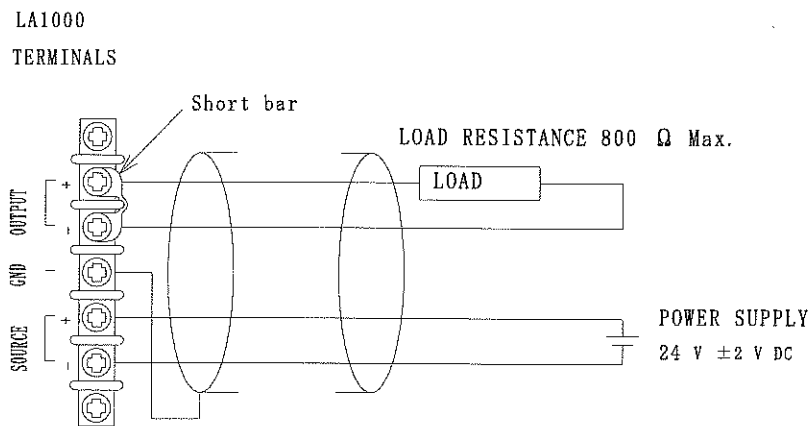

Fig. 8 Wiring
(1) Connect digital ammeter (measuring range ; 4 to 20 mA DC) to output terminals reference with Fig. 8.
(2) When the liquid level is zero, adjust 4 mA DC with ZERO trimmer. (When turning a trimmer to the right, the indication and the output rises.)